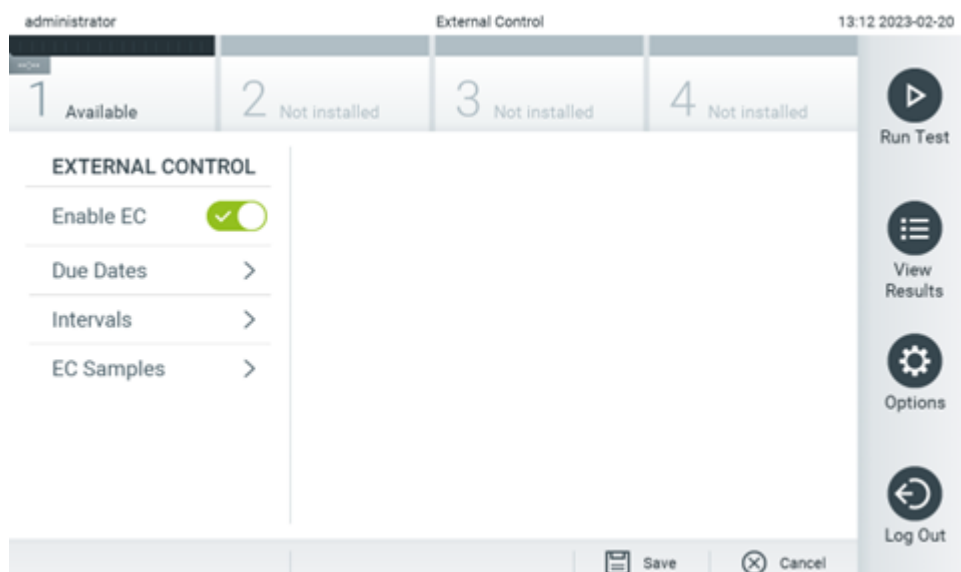

Figure 76. EC screen.
2. Turn on **Enable EC** to activate this feature (Figure 76).